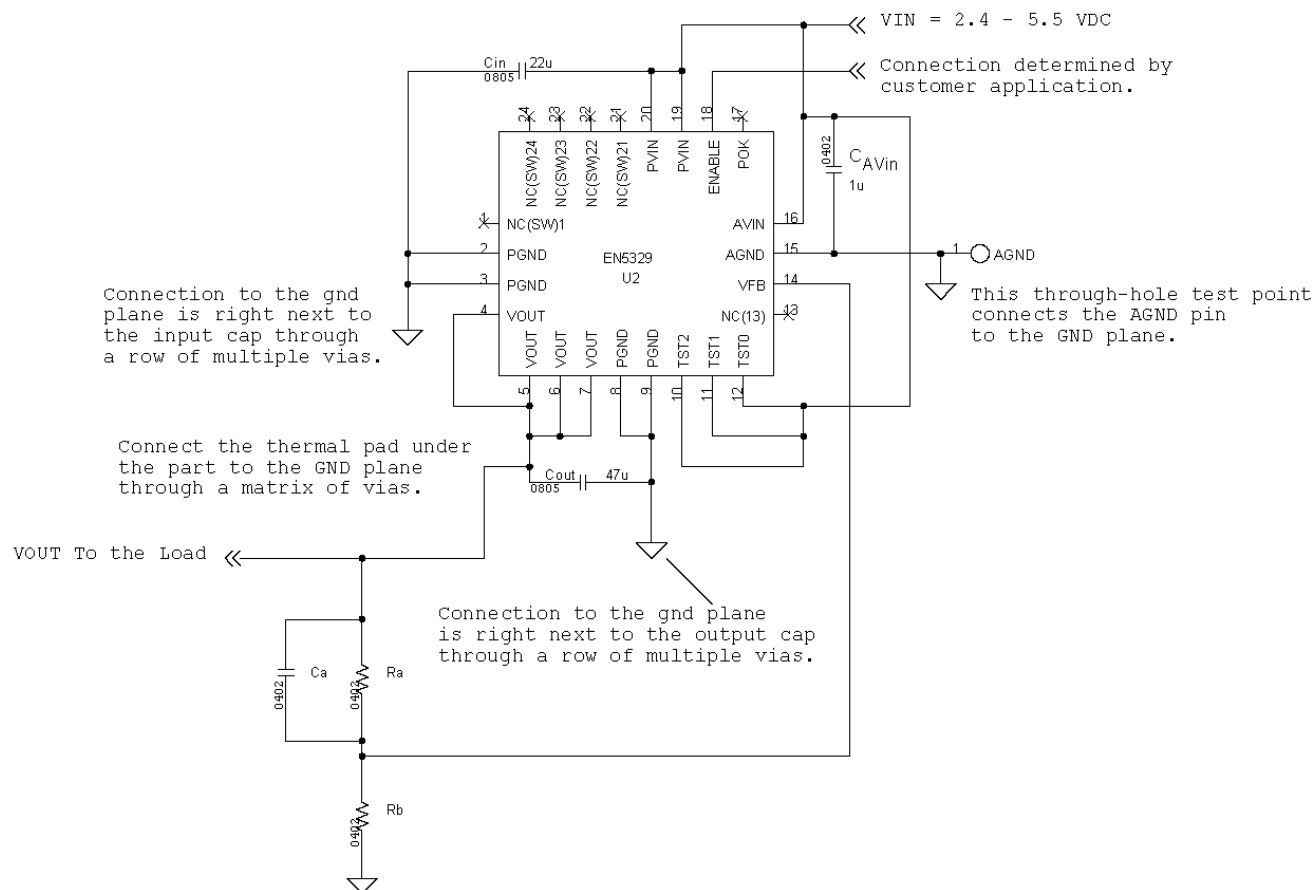

Figure 8. Engineering Schematic with Critical Components
**Recommendation 6:** The layer 1 metal under the device must not be more than shown in Figure 8. See the section regarding exposed metal on bottom of package. As with any switch-mode DC/DC converter, try not to run sensitive signal or control lines underneath the converter package on other layers.